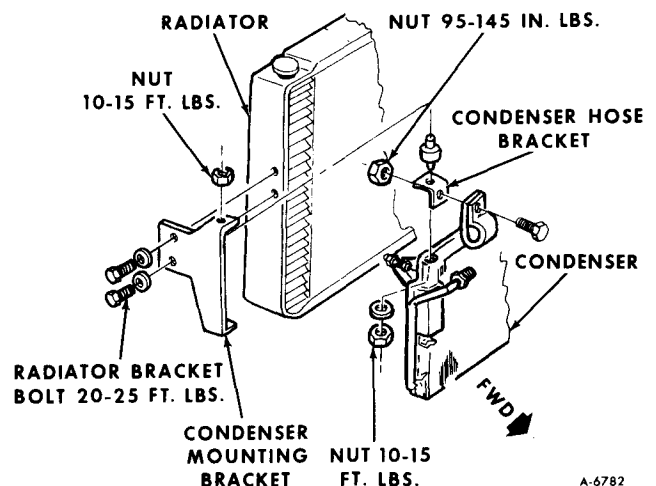

Figure 64—Condenser Mounting
3. Secure condenser to radiator mounting brackets with screws (both sides). Refer to figure 64.